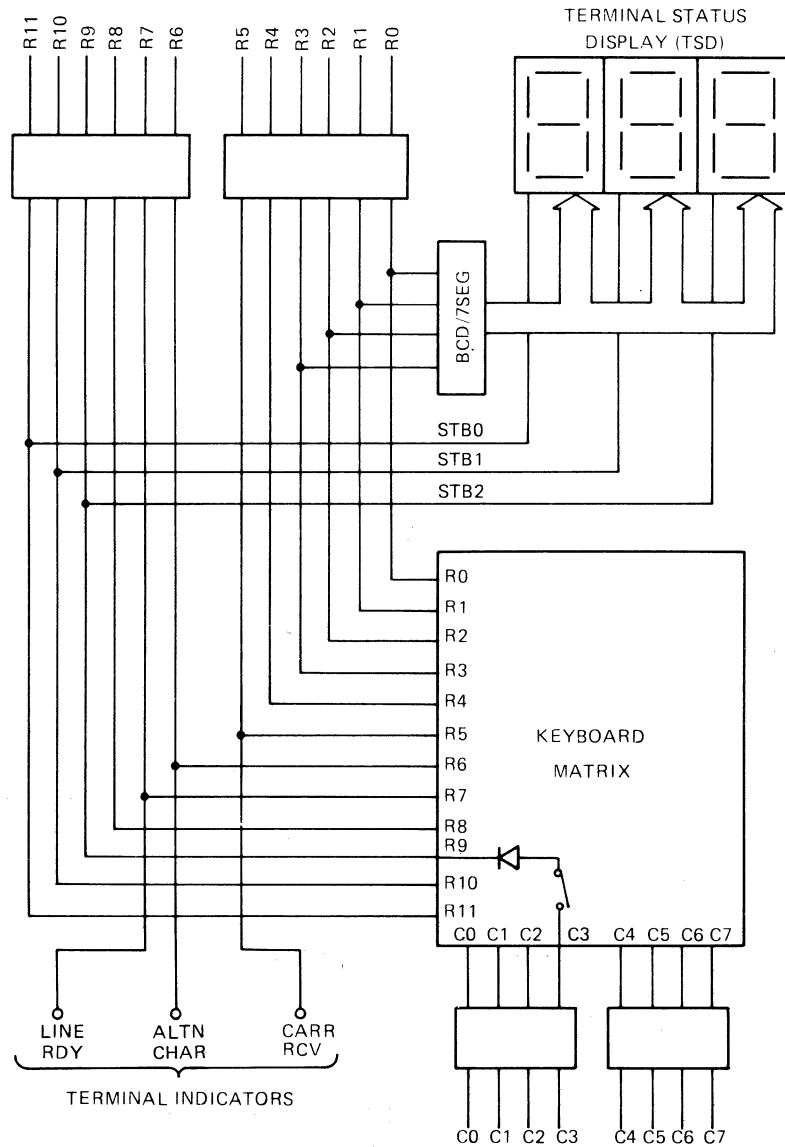

Figure 4-8. Keyboard PWB Simplified Diagram
4.4.4 KEYBOARD INTERFACE. All references in this subsection apply to drawing 999692, sheet 6. The keyboard interface connects the data bus of the terminal controller processor to the row inputs and the column outputs of the keyboard. The keyboard interface also connects the data bus to the ribbon motor drive inputs. The data bus is an eight-bit bidirectional bus. The terminal electronics PWB, which includes the keyboard interface logic, is connected to the keyboard PWB by a 25-conductor ribbon cable (the center conductor is not used). A simplified block diagram of the keyboard PWB is shown in Figure 4-8.